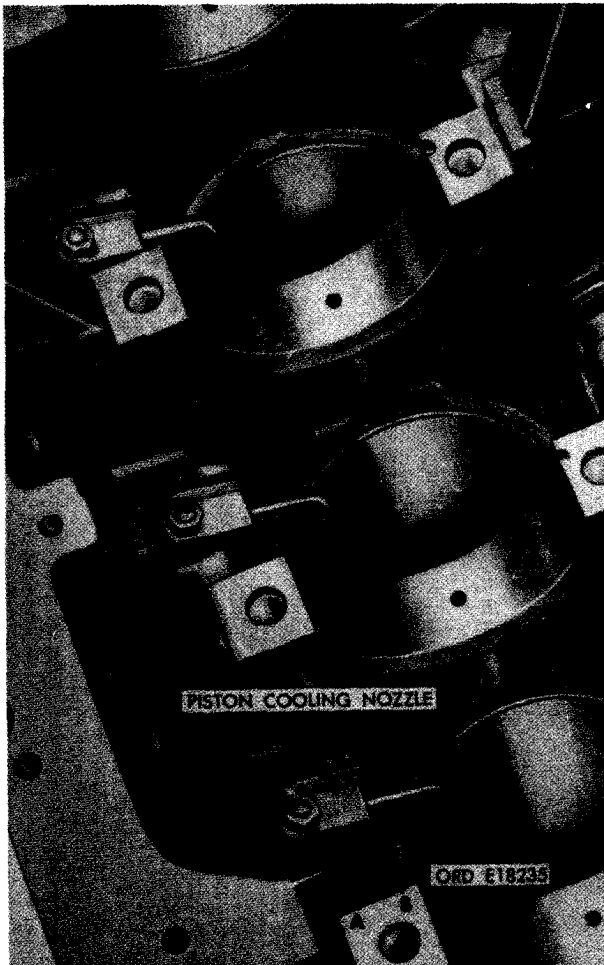

FIGURE 309. REMOVING PISTON COOLING NOZZLES.
**b. Removal.** Figure 309. (A) Remove six 5/16-inch plain nuts securing the six piston cooling nozzles to cylinder and crankcase assembly. (B) Remove six piston cooling nozzles.